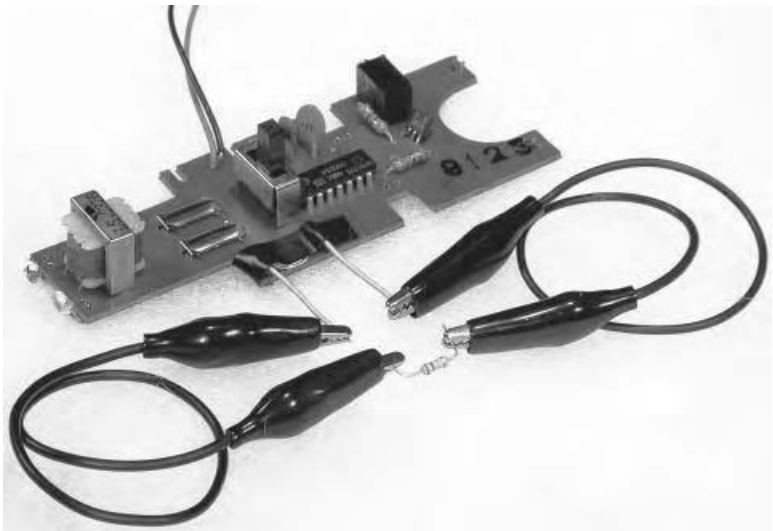

Figure 13.4 A remote resistor.
3. Attach a clip lead to the free end of each of the wires. Clip the resistor you removed between the other ends of the clip leads, effectively re-inserting it to the circuit (see figure 13.4). If you didn't damage anything in de-soldering, the circuit should behave as it did before the operation. If it doesn't, you may need to "restart" the toy by removing and reinstalling the batteries (see Rule #12, below).